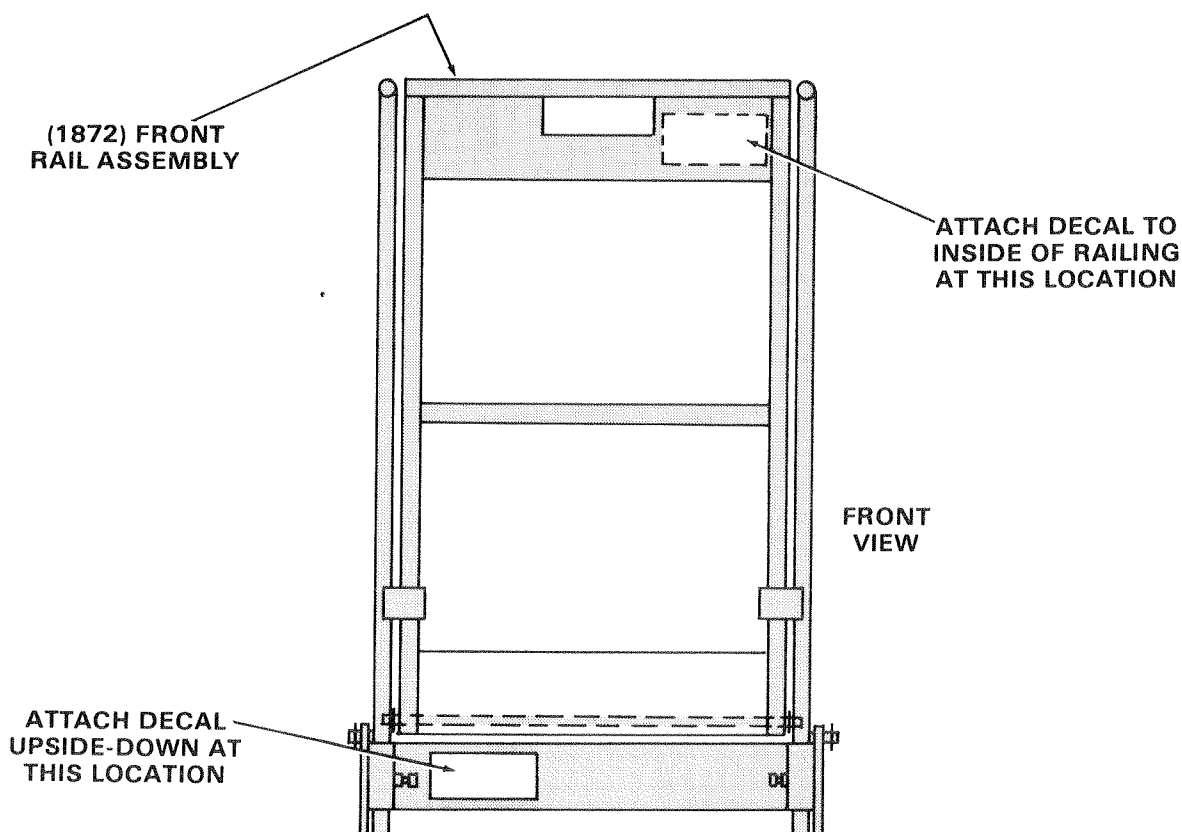

Figure 6. Attaching Decals.
5. Attach decals with platform in extended position as follows, Figure 6: